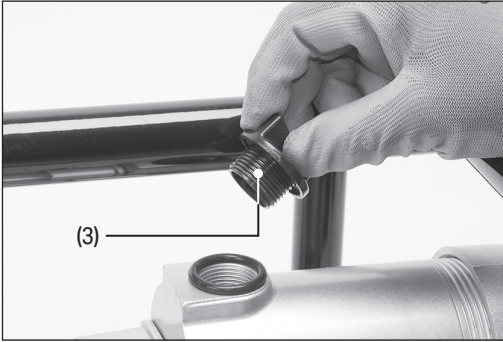

Fig. 10
1. Remove the priming cap (3) and fill the pump housing with water before refitting the cap and starting your pump (Fig. 10).